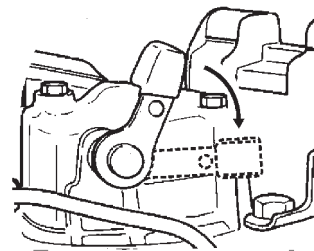

Figure 10. Decompression Lever
5. Push down decomposition lever (Figure 10) and release.